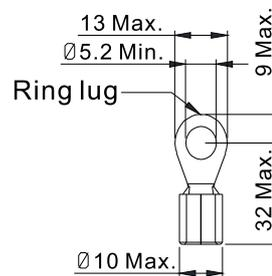

Figure 1
- Use specified ring lug for terminal wiring. See Figure 1 and Figure 2 at right for ring lug specifications. For other types of wiring, use the wires that comply with local regulations.